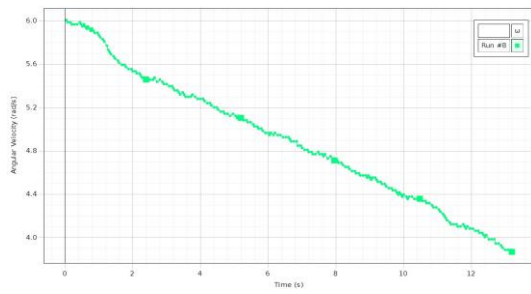
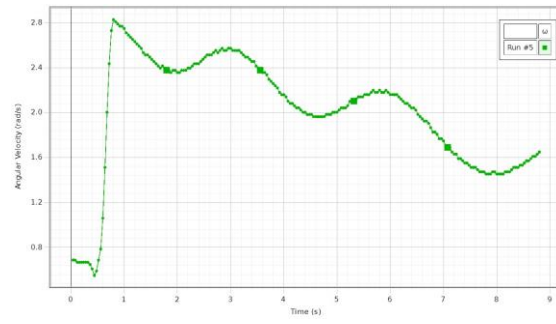

Figure 4: Level Disk
Figure 5: Unlevel Disk
5. The Level Check (Ang. Speed vs time) graph should look like Figure 4. There may be some small bumps, but should not be a periodic change (like in Figure 5) caused by the ring speeding up when going downhill and slowing on the uphill portion of its rotation. If you see a periodic variation, re-level and try again. One way to accurately level is to stop the rotation and see where the point where the disk is tangent to the ring ends up. That's the low spot.